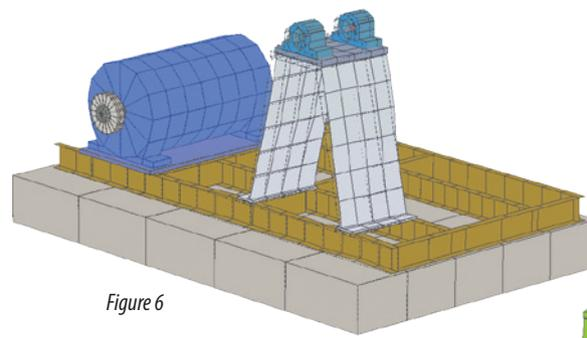

Figure 6
- The ODS model showed that the vibratory motion of the fan bearing pedestal and base was rocking in the axial and vertical directions, Figures 6 and 7.